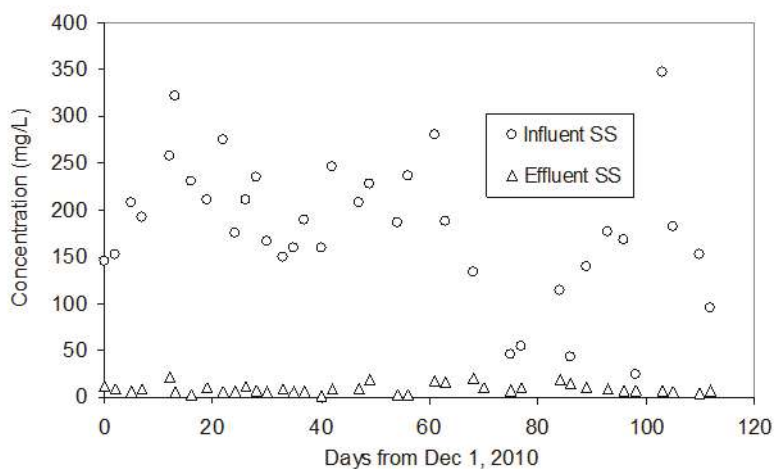
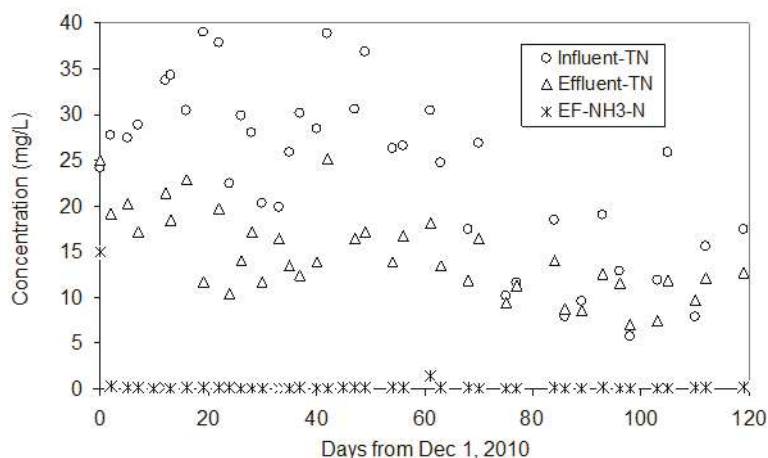

Figure 4. 20' BBR TSS performance data
Figure 5. 20' BBR nitrogen performance data
Figure 4 shows the influent and effluent total suspended solids (TSS) data. The average influent and effluent TSS concentrations were 196 mg/L and 9 mg/L, respectively, achieving 95 percent removal efficiency. Figure 5 shows the influent and effluent total nitrogen (TN) concentrations, as well as effluent ammonia-nitrogen. They were 24 mg/L, 15 mg/L, and 0.5 mg/L, respectively.